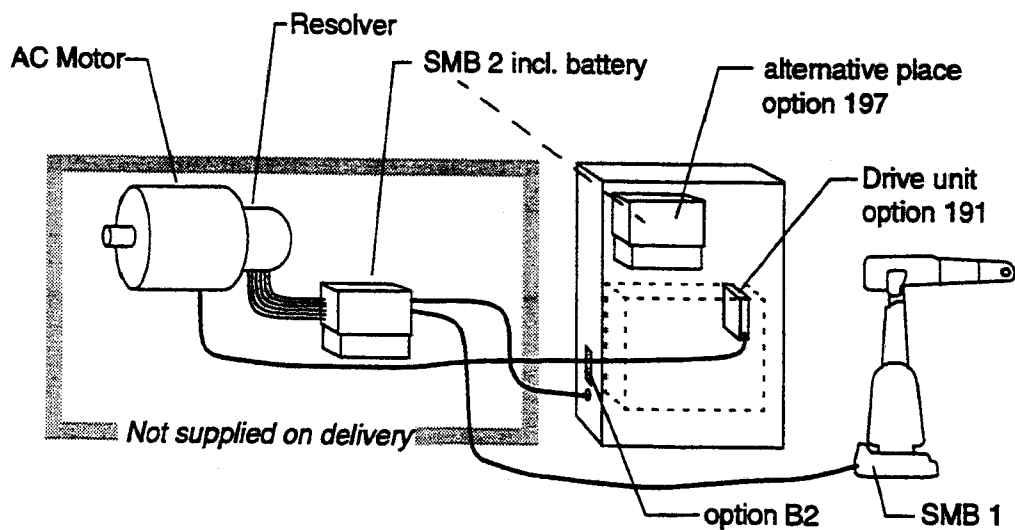

Figure 30 External axes with an internal drive unit (option 191).
- an AC motor (IRB motor type or similar) controlled via a drive unit mounted in the cabinet, with the maximum of one drive unit, (see Figure 30) or